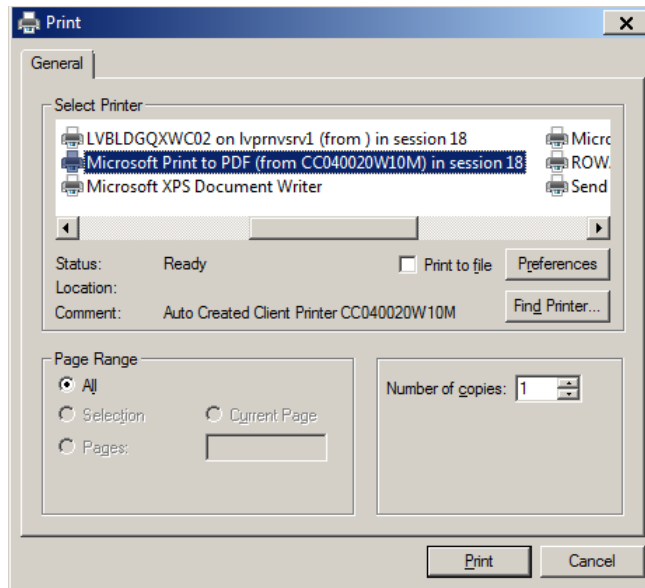

Figure 7-20. IDR Print Dialog Box
3. The Print Dialog box opens (Figure 7-20). Click on **Print** or **Cancel** depending on if you want a hard copy of the IDR(s).